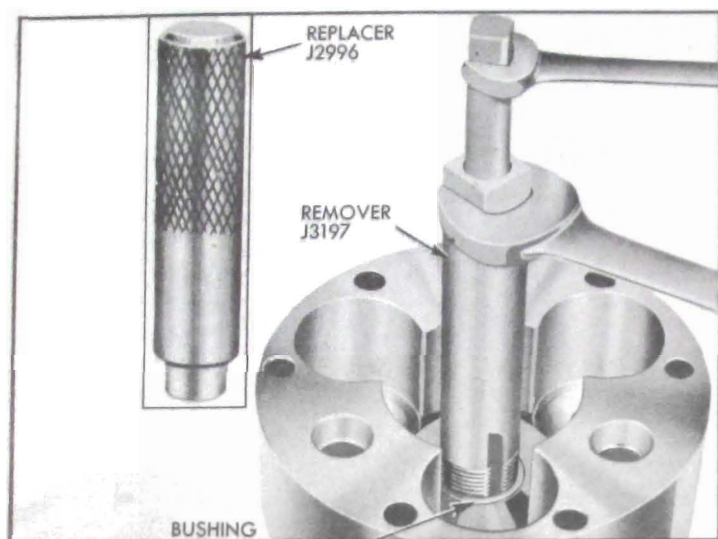

Figure 5-85—Replacing Planet Carrier Bushing
4. Inspect bushing in rear end of planet carrier, and replace it if worn or scored. The bushing may be removed with Bushing Remover J 3197 and new bushing may be installed, either end first, by using Bushing Replacer J 2996. See figure 5-85. Reaming to size is not required.